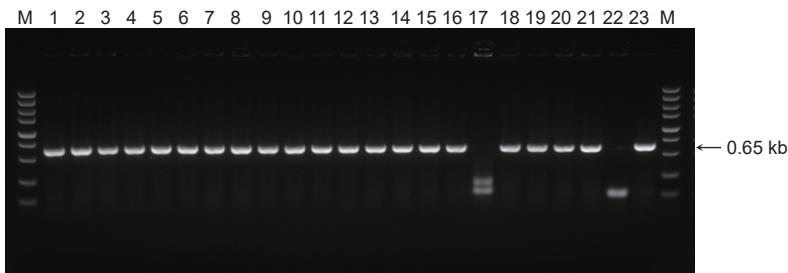

Fig 5. Agarose Gel Electrophoresis of Colony PCR Products
- ◇ Pick several clones from the plate of recombination reaction for colony PCR with at least one universal sequencing primer of the vector. If the colony is positive, a band slightly larger than the size of the insert should appear (Fig 5).